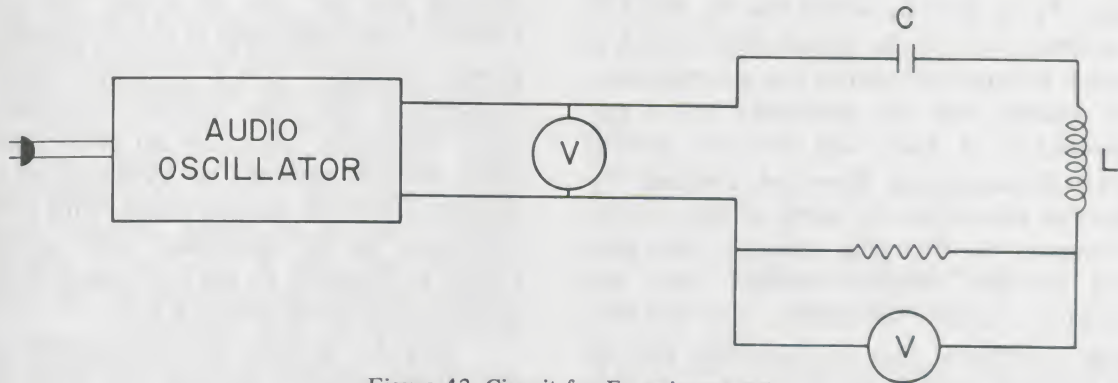

Figure 43. Circuit for Experiment C-1.
1. Connect an AC series circuit as indicated in Figure 43. The power source is an audio oscillator. Use an inductor with about a 1-H inductance and a capacitor with about  $5\text{-}\mu\text{F}$  capacitance.